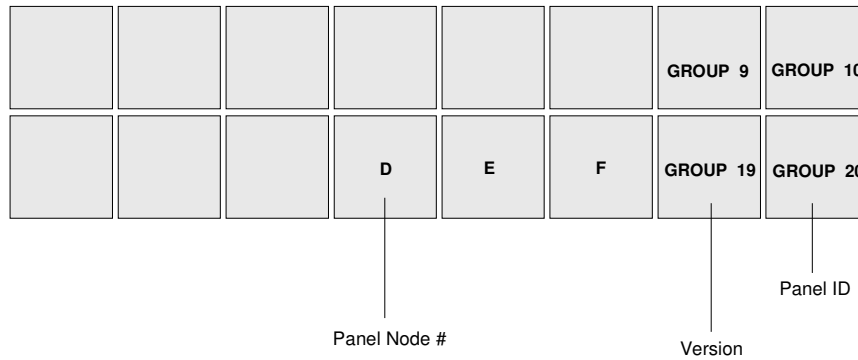

Figure 0-20. Keypad Buttons used for Miscellaneous Panel Modes
2. While holding, press one of the first seven keypad buttons, as shown in Figure 0-20. Button **1** is the brightest setting; button **7** is the dimmest setting.
2. While holding, press the **GRP 19** button as shown in Figure 0-20. In the **Source Display**, the panel's software version appears.
2. While holding, press the **GRP 20** button as shown in Figure 0-20. In the **Source Display**, the panel's ID appears.